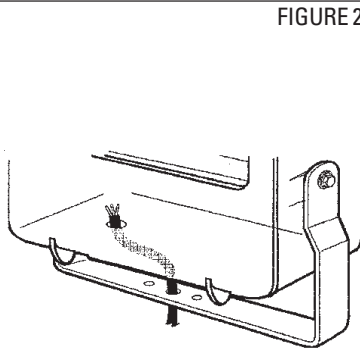

FIGURE 2
3. Run service wire through cord entry on bottom of fixture. Make wire connections. On multiple voltage fixtures reference "TB" instructions below. (FIGURE 2).